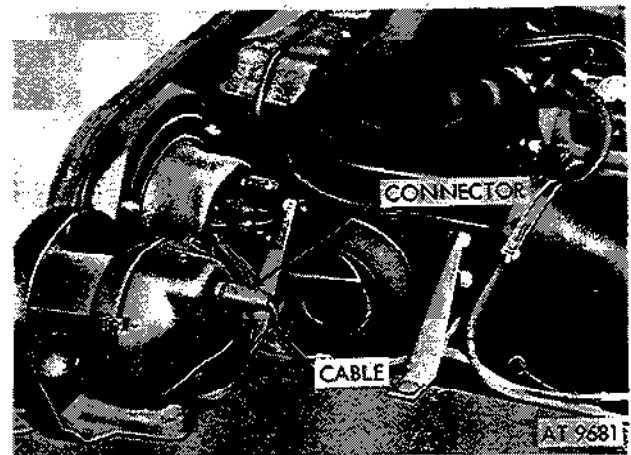

Figure 2-198. Separate connectors.
(1) Grasp cable at connectors and pull, separating male and female connectors (fig. 2-198).